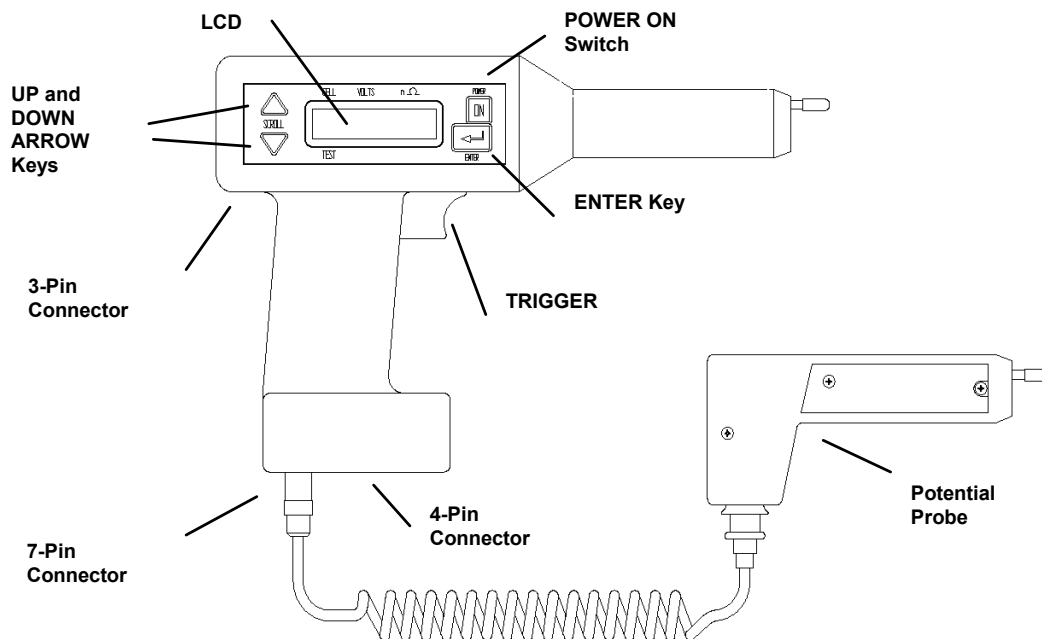

Figure 5-4: Receiver controls, connectors, and indicators
2. Connect the plug of the CT to the 4-pin connector on the **receiver**. Figure 5-4 shows the location of the 4-pin connector.